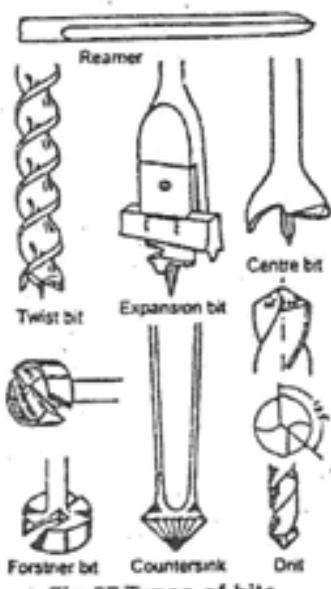

Fig 37 Types of bits
**Bit.** Most other forms of boring tools consist of "bits". The common types of bits used are shown in Fig. 37 and described below: